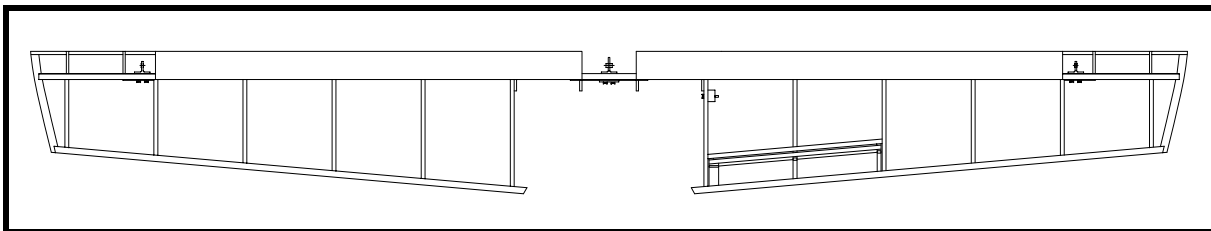

Figure 9
- ❑ Fit the leading edge skin. This skin will extend from B.L. 70 to Sta. 5. The plywood must be soaked and bent. See Figure 9.